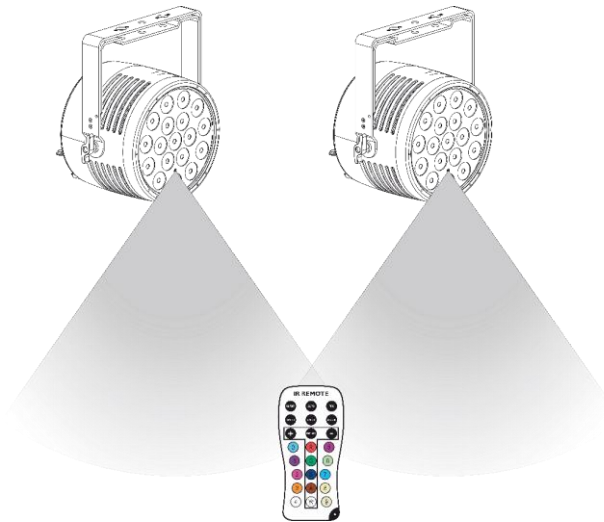
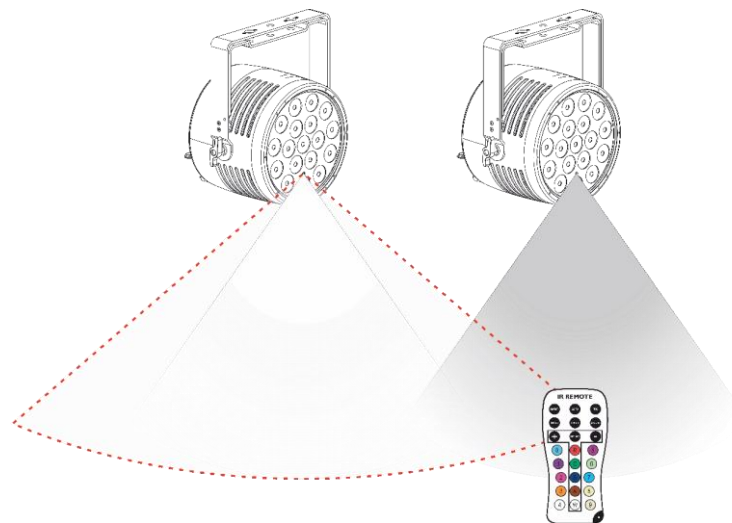

Fig. 12
Fig. 13
You can control several devices at the same time with the remote control. Make sure that you point the remote control to the **infrared sensor (05)** of the device or group of devices that you want to control, as shown in Fig. 12. If you point the remote control to the **infrared sensor (05)** of the device outside of the range of the sensor, the device will not respond to the remote control (Fig. 13).